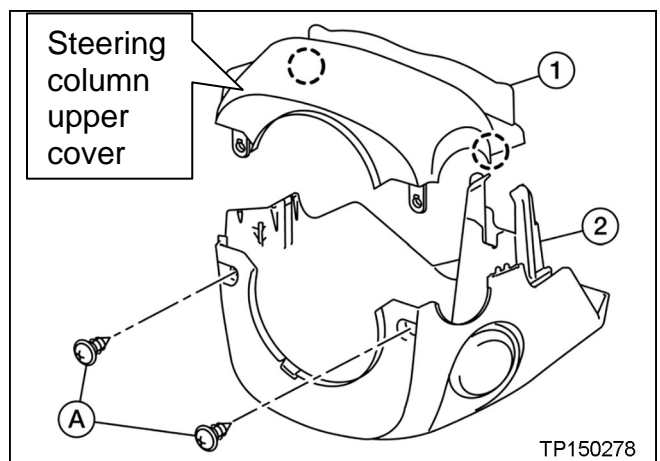

Figure S10
- a. Remove screws **A** (shown in Figure S10).
- b. Snap loose and remove the upper cover (1).